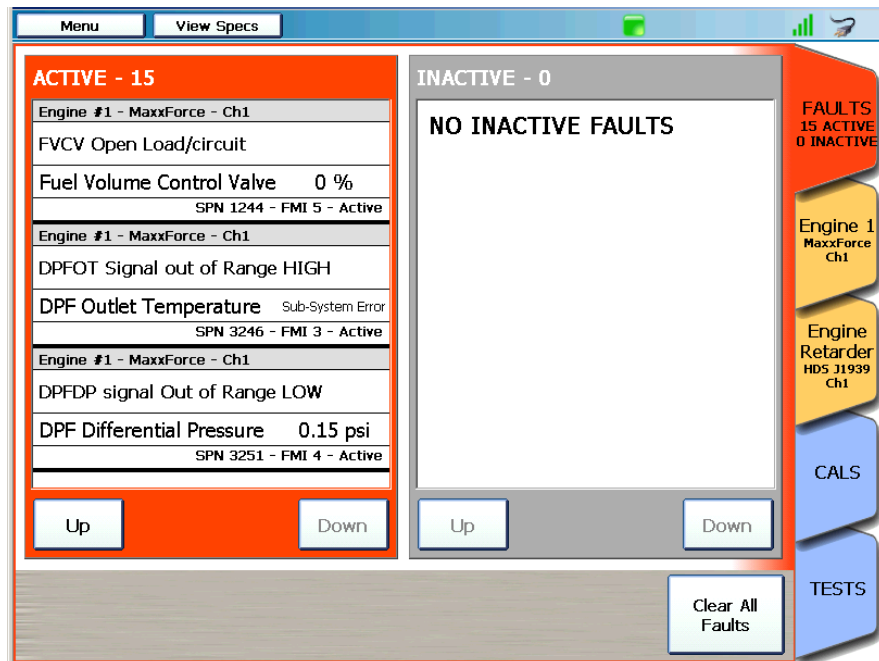

Figure 6.1 Diagnostics Menu
- Touch the red **FAULTS** tab to go back to the list of faults (Figure 6.1), and select a different fault to view the Repair-Connect information for that fault.
- Touch the **FAULTS** tab to go back to the list of faults (Figure 6.1).